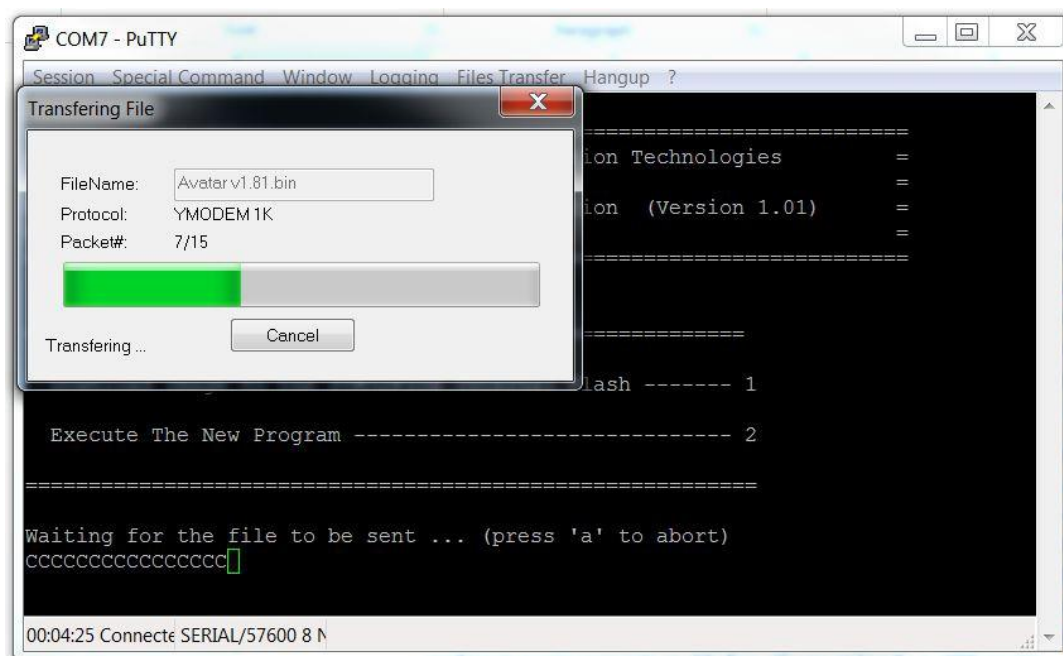

Fig. 11. Programming operation progress bar.
- (6) Programming will start and a progress bar will be displayed as shown in Fig. 11. When programming completes, the progress window will close, and the Main Menu will be displayed along with the status of the programming operation. Follow the procedure discussed in section (7) of the HyperTerminal instructions to initialize and run the new applications program. Close the ExtraPuTTY application. Since the configuration has been saved, the next time that it is needed, merely select Load and then Open the saved configuration from the startup screen.